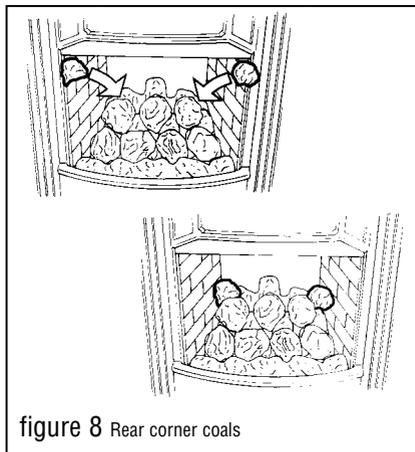

figure 8 Rear corner coals
- 3.3 Place the two small loose coals near the rear corners of the burner compartment and touching the sidewalls (See figure 8).